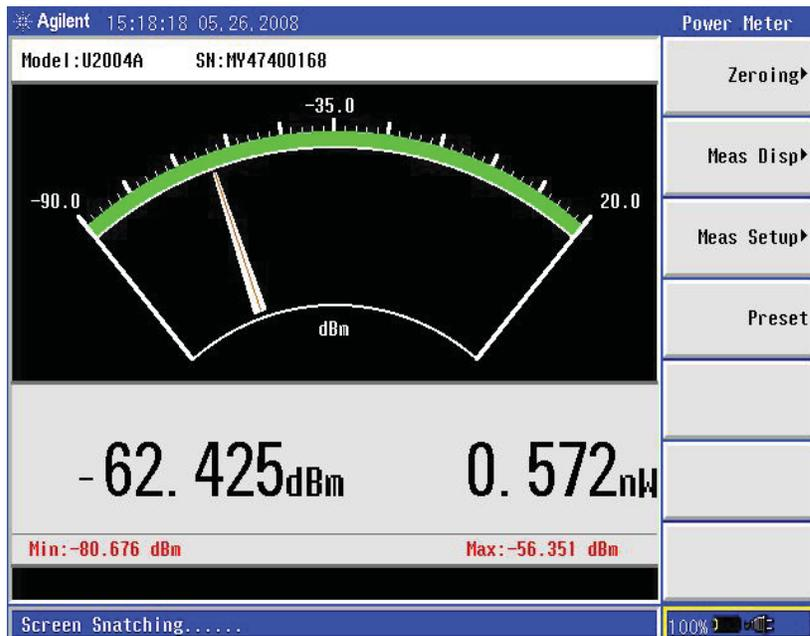

Figure 14 N9340A HHSA turns into a power-meter measurement
2. Press [Mode], use [↑] or [↓] key to select the {Power Meter} then press [ENTER] (see Figure 14).